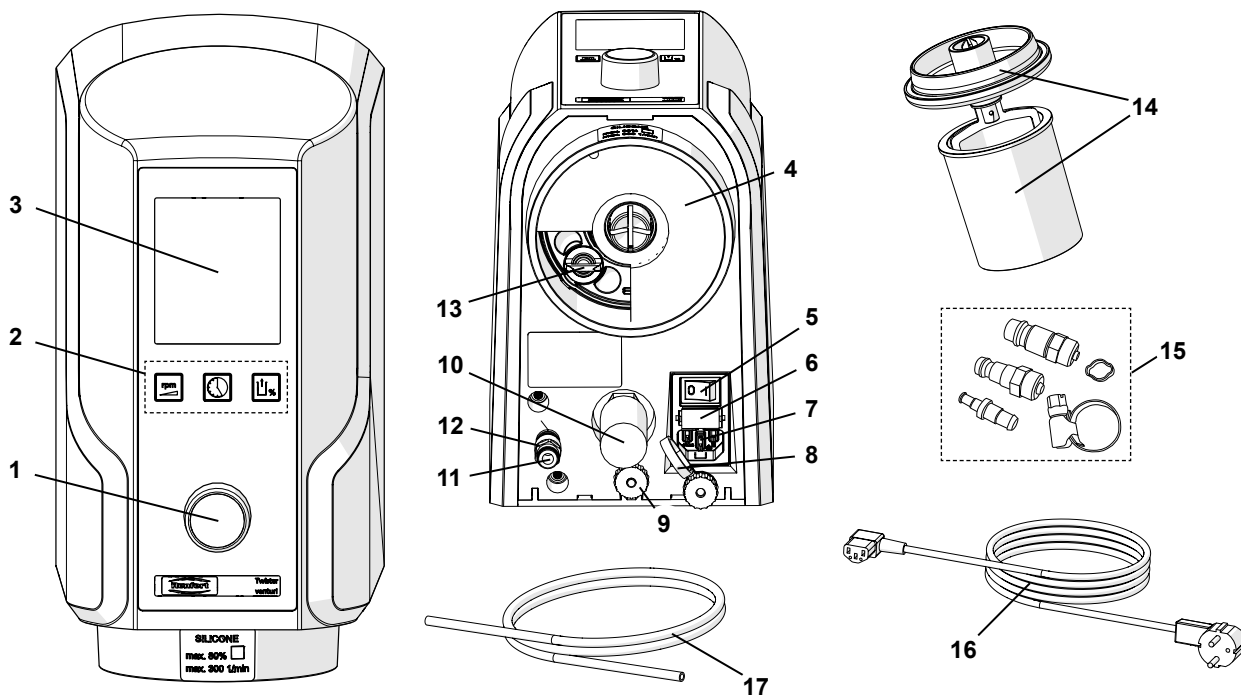

Fig. 1
- ⇒ Plug the compressed air horse (17) into the tube attachment on the compressed air connection (11) as far as it will go. There will be a slight resistance to overcome when attaching.
- ⇒ Select the proper coupling from the set (15, Fig. 1) provided and install it on the other hose end to connect it to the compressed air system.